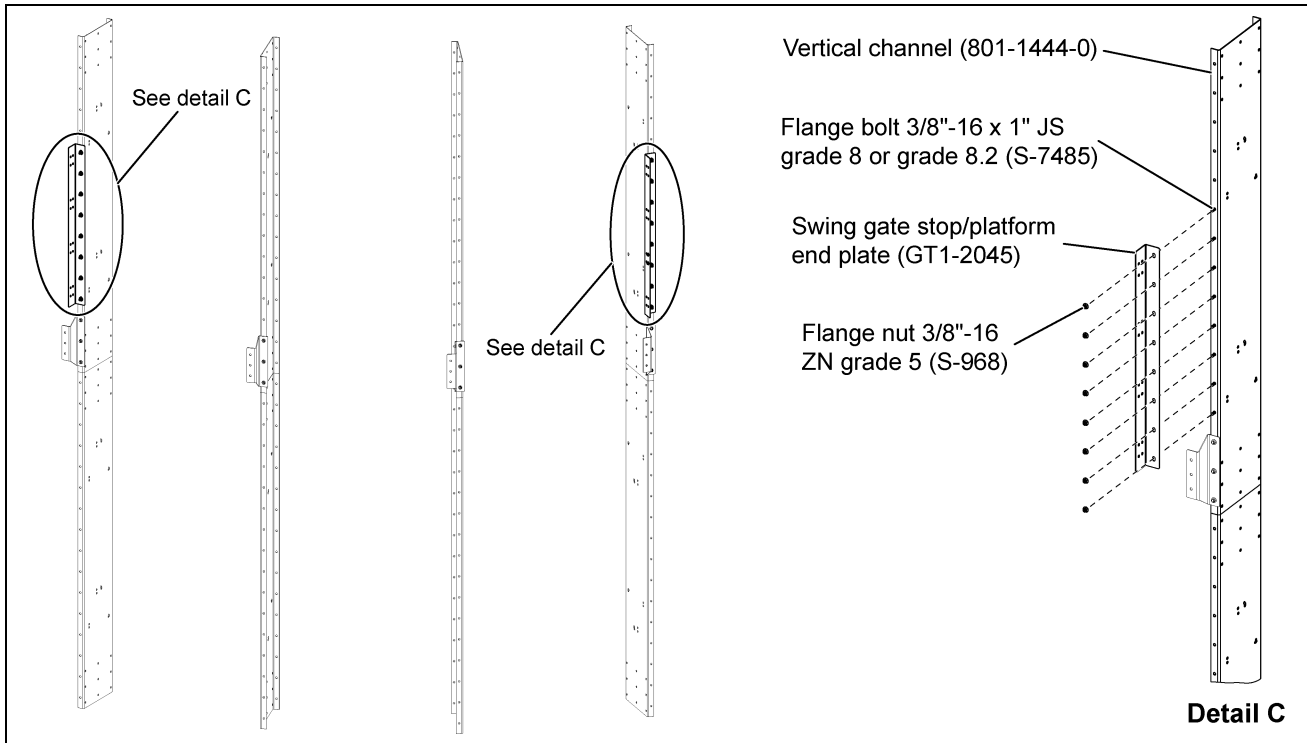

Figure 6E Offset Swing Gate Stop Installation
1. Install swing gate stops (GT1-2045) to the safety gate opening vertical channel and catwalk end vertical channel on offset catwalk as wall sheets are installed using 3/8"-16 x 1" JS grade 8 or grade 8.2 bolts (S-7485) and 3/8"-16 grade 5 nuts (S-968). (See Figure 6E and Figure 6F.)